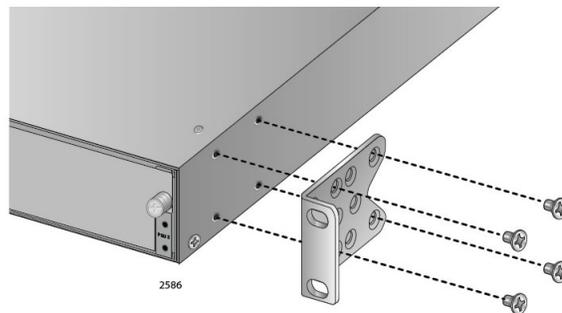

Figure 16. Attaching the Brackets to Switch
1. Secure the two rack mount brackets to the sides of the switch using the eight bracket screws provided. Figure 16 shows an example of mounting the rack mount bracket on the front of the chassis and with the bracket flush to the front panel. See Figure 15 for other possible bracket mounting positions on the chassis.